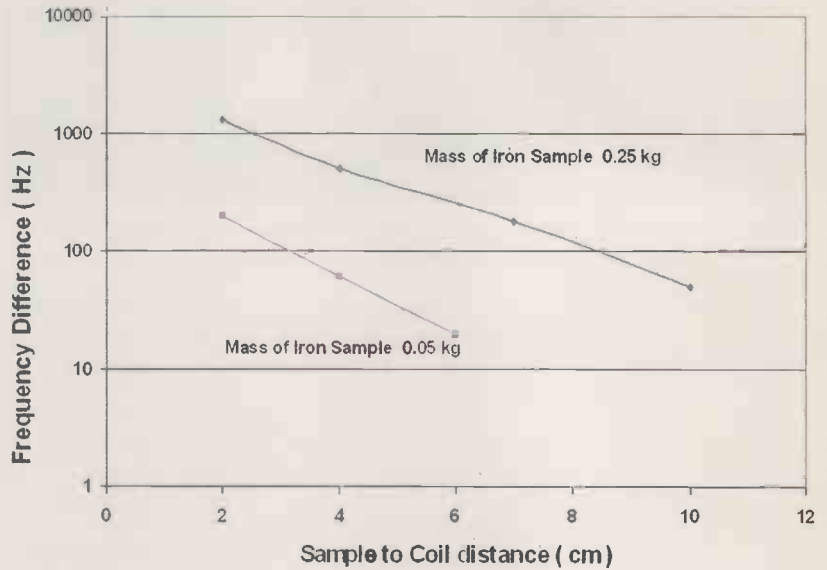

Fig. 6. Frequency difference resulting from proximity of iron object.
**Metal detection.** With the present system it has been impossible to differentiate between ferrous and non-ferrous objects. All metals gave a frequency shift to higher levels. As expected, larger pieces of metal gave larger frequency shifts. In addition, the proximity of the sample had an influence on the frequency shift and both effects are illustrated in Fig. 6.